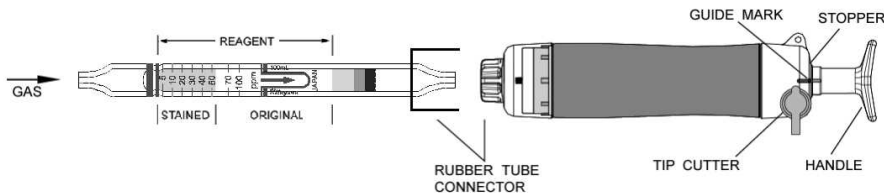

Fig.1
- ② Insert the detector tube into the aspirating pump securely as shown in Fig.1. (Arrow mark shall point to the pump.)
- ③ Align the guide marks on the handle and stopper of the aspirating pump.
- ④ Pull the pump handle at a full stroke until it locks and wait for 1.5 minutes or until the completion of sampling is confirmed with the flow indicator of the pump. (See descriptions about the flow indicator in the instruction manual of the pump.)
- ⑤ On completion of sampling, read the scale at the maximum point of the stained layer.
- ① Temperature; No correction is necessary.
- ② Humidity; No correction is necessary.
- ③ Atmospheric Pressure;